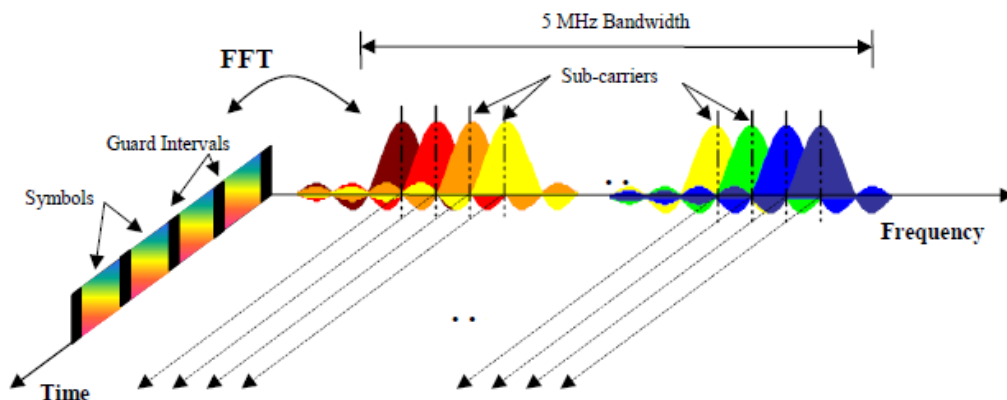

Fig. 2-1: Frequency-Time Representation of an OFDM Signal (3GPP TR 25.892 [2])
figure 2-1 shows a representation of an OFDM signal taken from 3GPP TR 25.892 [2]. In this figure, a signal with 5 MHz bandwidth is shown, but the principle is of course the same for the other EUTRA bandwidths. Data symbols are independently modulated and transmitted over a high number of closely spaced orthogonal subcarriers. In EUTRA, downlink modulation schemes QPSK, 16QAM, and 64QAM are available.
The vector s_m is defined as the useful OFDM symbol. It is the time superposition of the N narrowband modulated subcarriers. Therefore, from a parallel stream of N sources of data, each one independently modulated, a waveform composed of N orthogonal subcarriers is obtained, with each subcarrier having the shape of a frequency sinc function (see figure 2-1).
One downlink slot consists of $N_{\text{symbol}}^{\text{DL}}$ OFDM symbols. To each symbol, a cyclic prefix (CP) is appended as guard time, compare figure 2-1. $N_{\text{symbol}}^{\text{DL}}$ depends on the cyclic prefix length. The generic frame structure with normal cyclic prefix length contains $N_{\text{symbol}}^{\text{DL}} = 7$ symbols. This translates into a cyclic prefix length of $T_{\text{CP}} \approx 5.2 \mu\text{s}$ for the first symbol and $T_{\text{CP}} \approx 4.7 \mu\text{s}$ for the remaining 6 symbols. Additionally, an extended cyclic prefix is defined in order to cover large cell scenarios with higher delay spread and MBMS transmission. The generic frame structure with extended cyclic prefix of $T_{\text{CP-E}} \approx 16.7 \mu\text{s}$ contains $N_{\text{symbol}}^{\text{DL}} = 6$ OFDM symbols (subcarrier spacing 15 kHz). The generic frame structure with extended cyclic prefix of $T_{\text{CP-E}} \approx 33.3 \mu\text{s}$ contains $N_{\text{symbol}}^{\text{DL}} = 3$ symbols (subcarrier spacing 7.5 kHz). table 2-1 gives an overview of the different parameters for the generic frame structure.